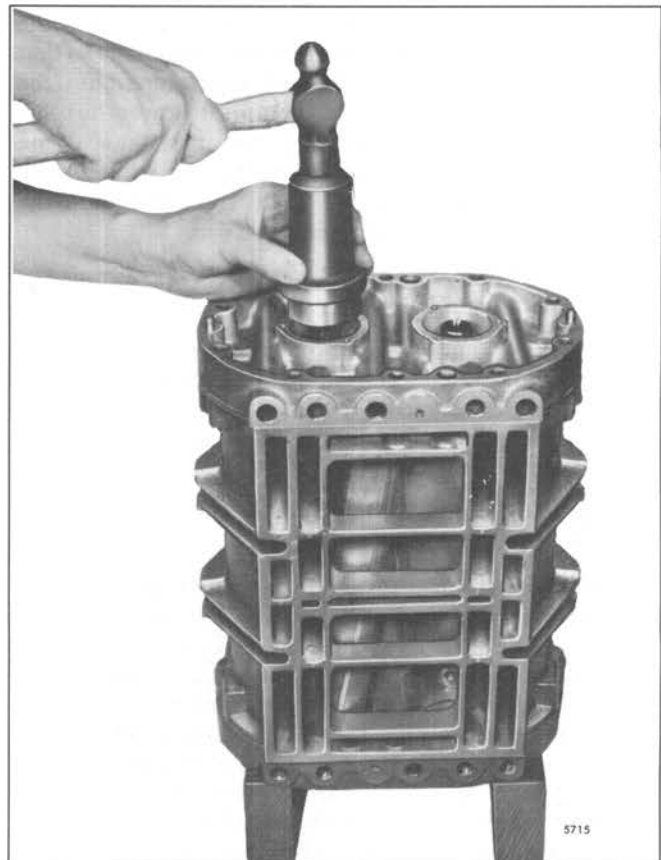

Fig. 20 – Installing Roller Bearings on Rotor Shafts and in Front End Plate with Tool J 6270–13
- a. Reverse the position of the blower housing on the two wood blocks (Fig. 20).
- b. Place installer J 6270–13 on top of the bearing and tap the bearing straight on the inner race and into the front end plate (Fig. 20).